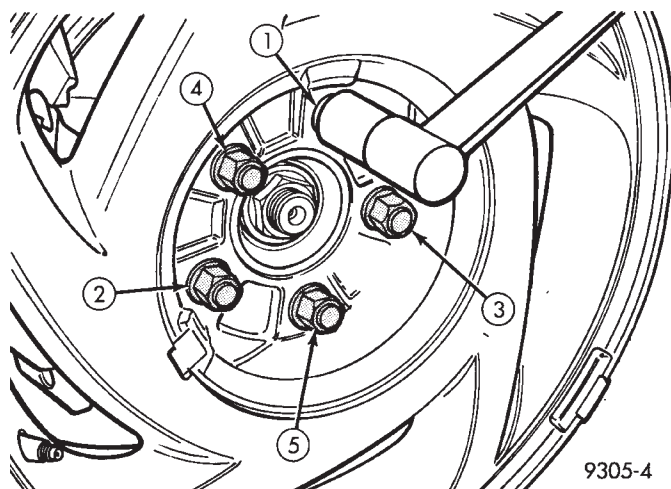

Fig. 22 Tightening Wheel Nuts
(11) Install wheel and tire assembly on vehicle. Tighten the wheel mounting stud nuts in proper sequence (Fig. 22) until all nuts are torqued to half specification. Then repeat the tightening sequence to the full specified torque of 129 N•m (95 ft. lbs.).